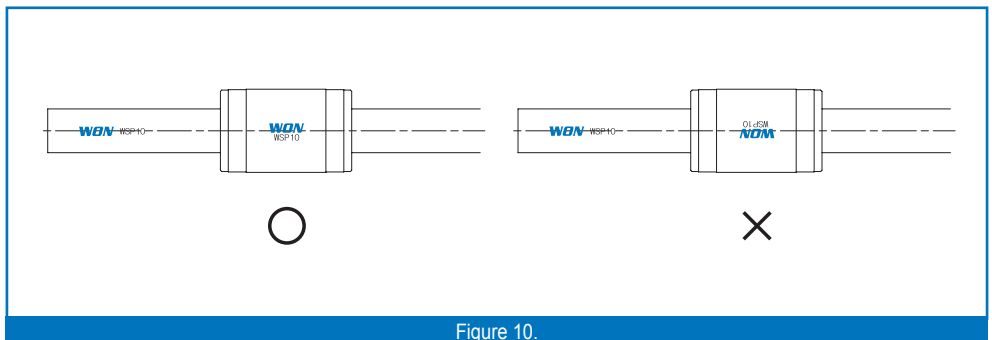

Figure 10.
- ① WON's Ball Spline can be used in an environment up to a temperature 120℃, and up to 80℃ for continuous use. Please inquire to WON for the application exceeding the temperature 80℃
- ② WON's Ball Spline has an optimum precision of adjustment at the same portion of both symbols of spline shaft and nut. (refer to fig. 10) When ball spline is installed in a machine, it is necessary to pay attention to keeping steering both nut & ball spline, the arrangement of nut and the steering direction.
- ③ In case that 2 nuts and more are used per shaft and so 2 keys and more is used on the rotational direction of outside fixing, the location of nut key ways should be parallel. For this case, please inquire to WON